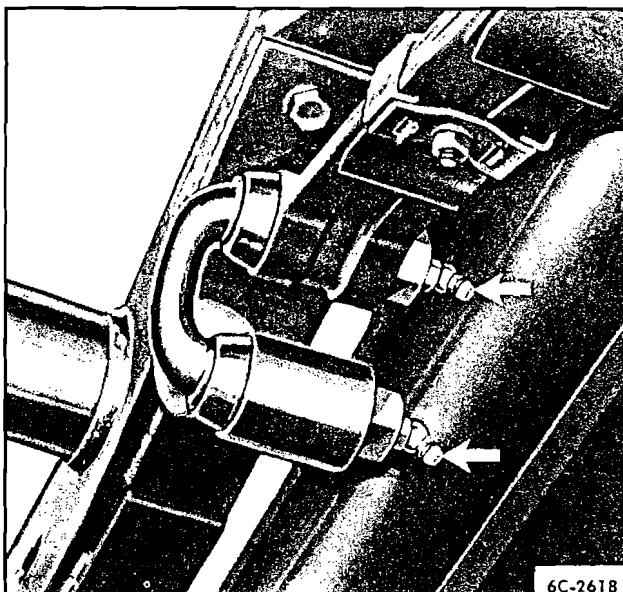

Fig. 8—Rear Spring Shackle
7. **REAR SPRING SHACKLE BUSHINGS.** Lubricate four lubrication points, two on each side, with chassis lubricant. Use pressure gun. See figure 8.